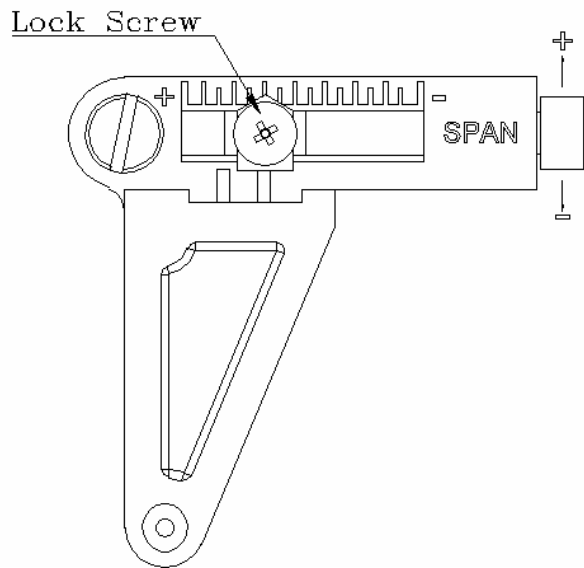

Fig. 13
4. After setting is completed, tighten Lock Screw. **Fig.13**